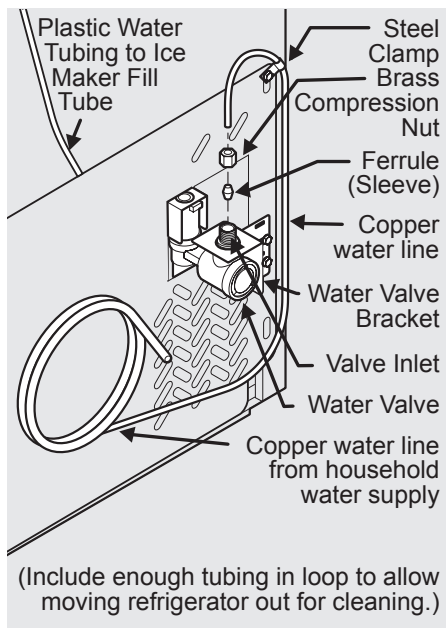

Figure 1
4. **If you use copper tubing** - Slide brass compression nut, then ferrule (sleeve) onto water supply line. Push water supply line into water valve inlet as far as it will go (¼ inch/6.4 mm). Slide ferrule (sleeve) into valve inlet and finger tighten compression nut onto valve. Tighten another half turn with a wrench; DO NOT overtighten. See Figure 1.